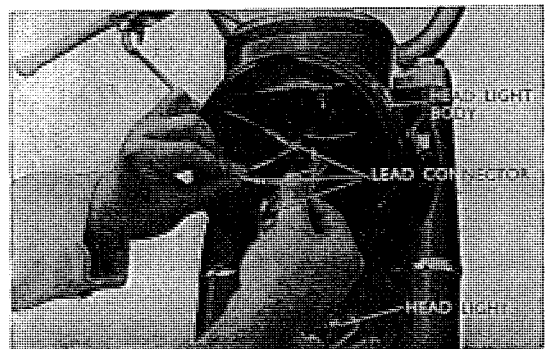

Fig. 4.10 Lead wire clamp
6. Clamp coupling of all lead wires (Refer to Fig. 4.10)